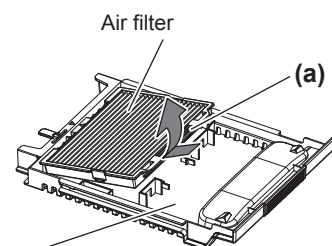

Fig. 3
3) Remove the air filter from the air filter case. (Fig. 3)